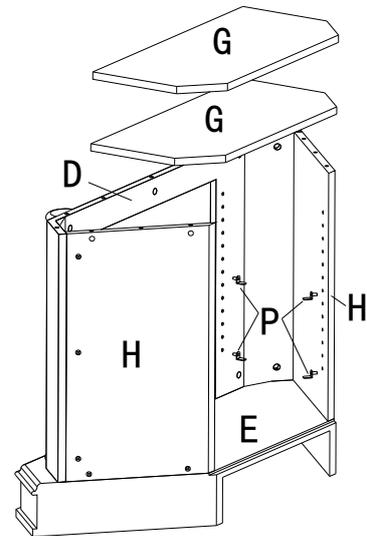

Figure 3
3. Put 8 Pins (P) onto Underside Panel (D) and Left & Right Panel (H) assembly, and lay 2 Clapboards (G) onto these Pins (P), leave proper space between two Clapboards (G).
Note: Space between two Clapboards (G) can be adjusted by changing the height of Pins (P). (Figure 3)